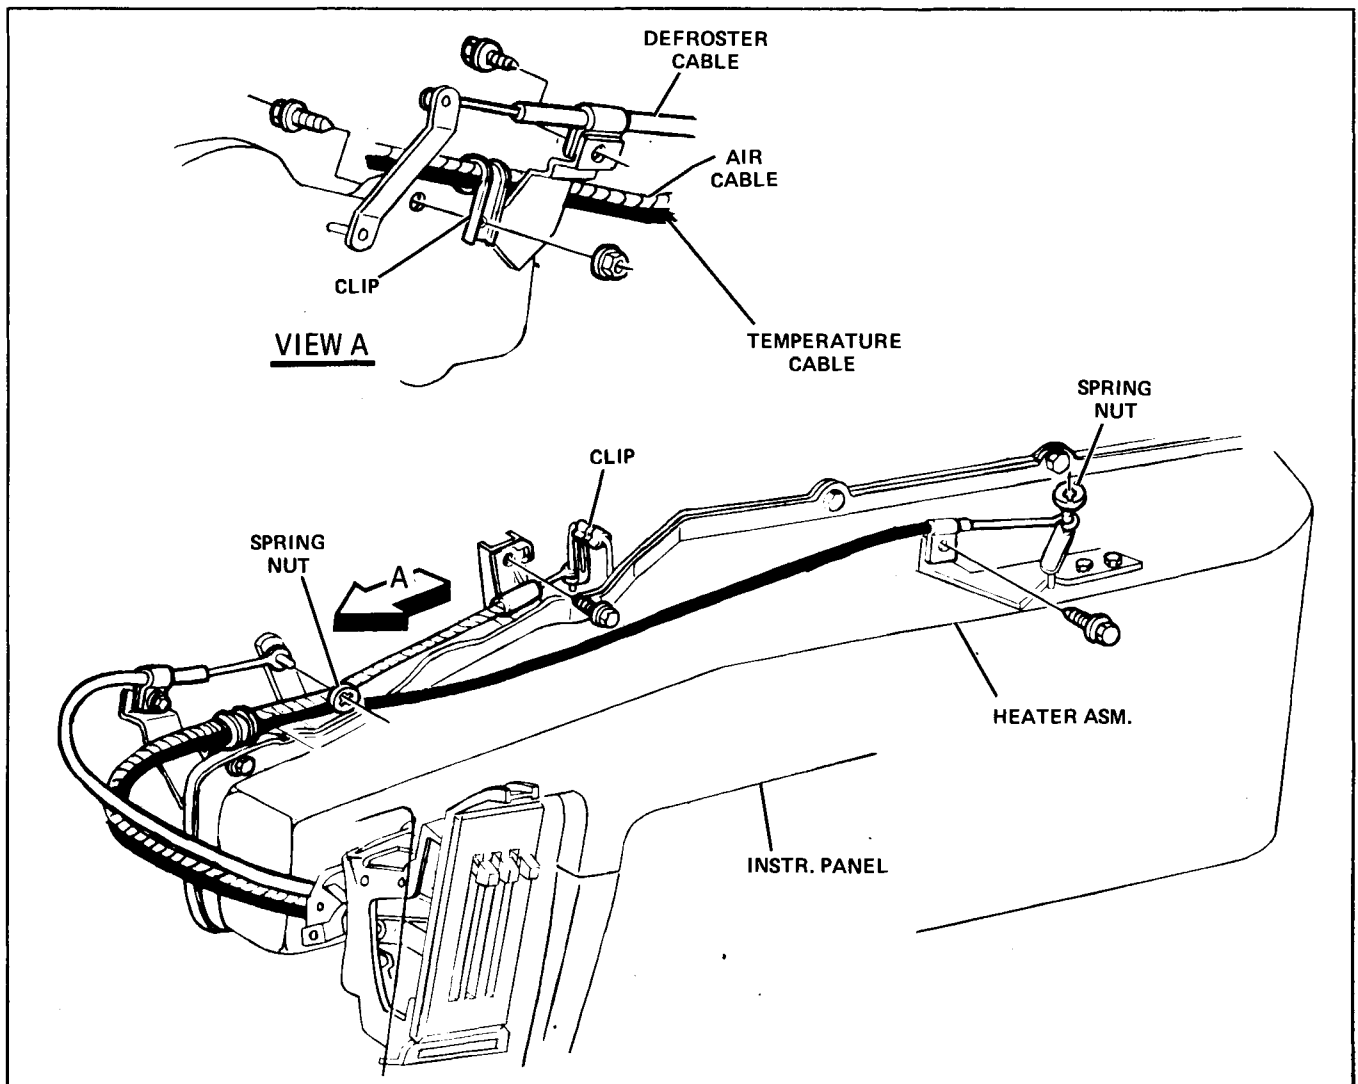

Fig. 1-14 Heater Cable Routing - X Series
Unlike other Pontiac models, the X Series heater cables do not have adjustable turnbuckles. Cable adjustment on the X Series is in the positioning of the cable attaching bracket at the heater case. Refer to Figs. 1-14 and 1-15 for cable routing and attachment.
3. Remove retaining screw and nut and disconnect cable at heater case (Fig. 1-14).